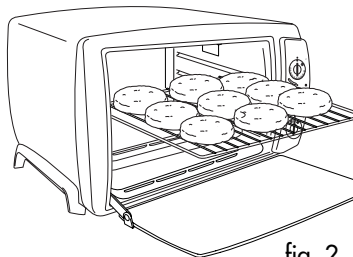
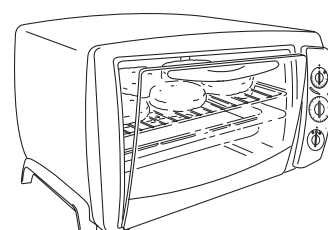

fig. 2
fig. 3
Once the preheating time is complete, place the food being grilled directly on the wire rack (Figure 2) and close the door, leaving it ajar, as shown in Figure 3; remember to turn the food half way through cooking.
Important: for best results, place the food on the wire rack (N), leaving an empty space of around 2cm near the door (see Figure 2).